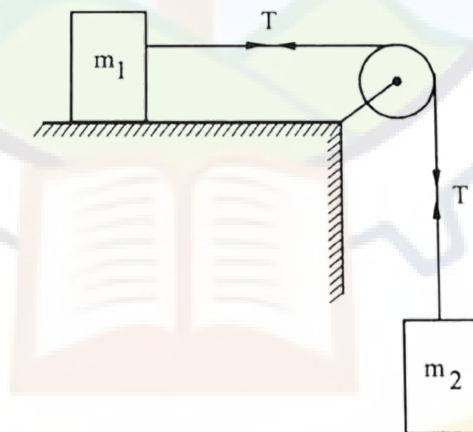

Figure 12
- (b) A block of mass 80 kg rests on a horizontal plane as shown in Figure 12. Find the magnitude of force P required to give the block an acceleration of $a= 4 \text{ m/s}^2$ to the right. The coefficient of friction between the block and the plane is 0.30. (7 marks)